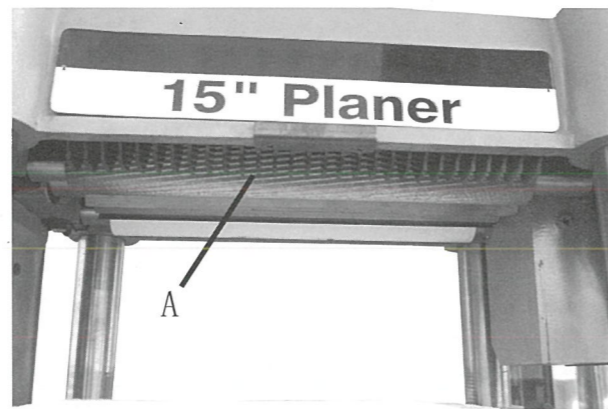

Fig. 26
The anti-kick back fingers (F) Fig.26 are provided on your planer to prevent kickback. These fingers operate by gravity and it is necessary to inspect them occasionally to make sure they are free of gum and pitch so that they move independently and operate correctly.